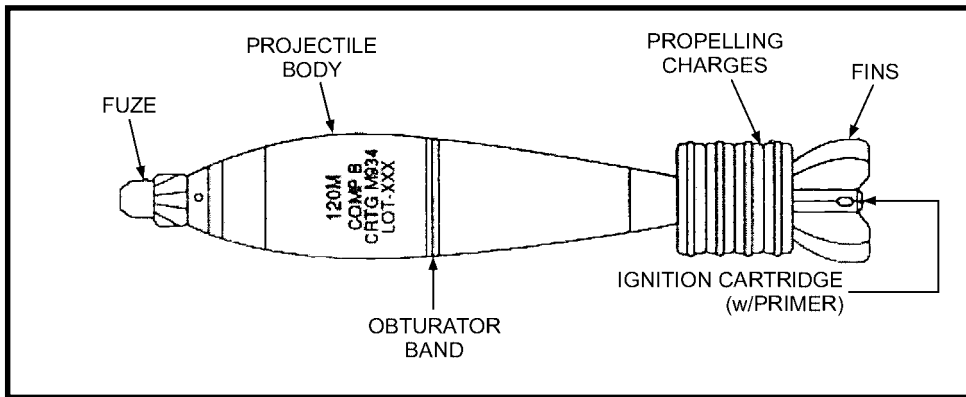

Figure 7-13. M934 HE cartridge.
e. **M934 HE Cartridge** (Figure 7-13).
- (1) Type and use: High explosive fragmentation and blast.
- (2) Identification: Olive drab with yellow markings.
- (3) Components: M745 PD fuze; M230 propelling charge.
- (4) Maximum range: 7,200 meters at charge 4.
- (5) Minimum range: 200 meters at charge 0.